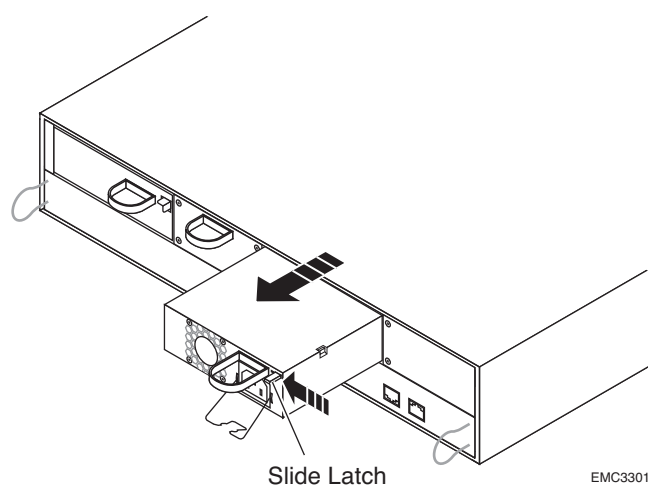

FIGURE 10. Removing an SSR212PP-Series Power Supply
- a.** For each power supply, push the slide latch to the left as you pull the power supply straight out of the chassis (Figure 10).